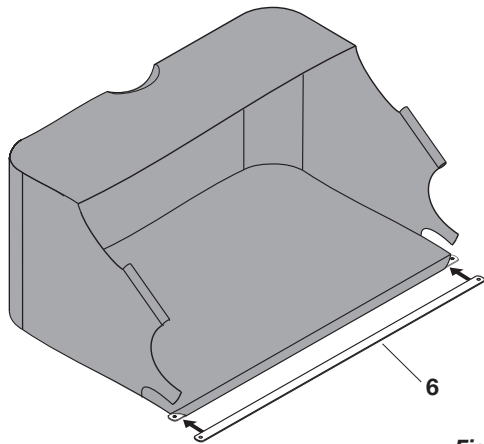

Figure 11
STEP 11: (SEE FIGURE 11)
- Slide the bag frame strap (6) into the front of the hopper bag.